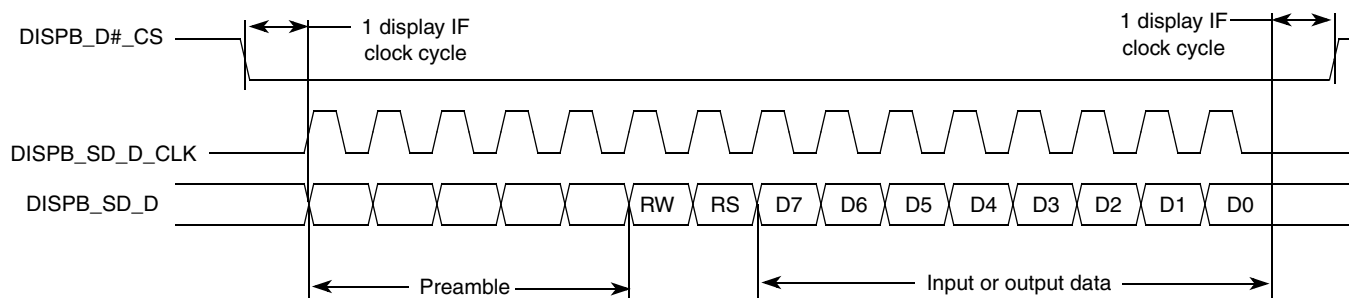

**Figure 62. 3-Wire Serial Interface Timing Diagram**
**Figure 62** depicts timing of the 3-wire serial interface. The timing images correspond to active-low `DISPB_D#_CS` signal and the straight polarity of the `DISPB_SD_D_CLK` signal.